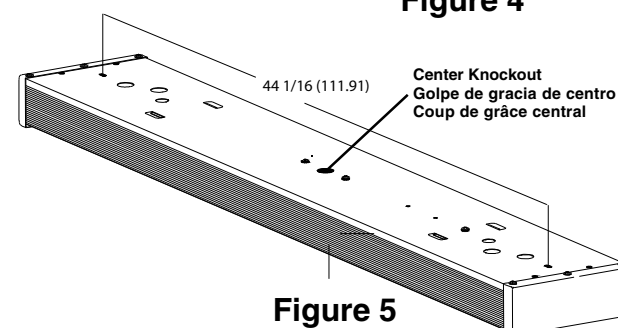

Figure 5
5. Remove center 7/8" knockout by placing straight blade screwdriver on edge of knockout and strike with hammer. (Always wear safety glasses when hammering). Remove slug by flexing back and forth with pliers. Position fixture with 7/8" diameter over junction box and mark location of mounting slots. **See Figure 5.**